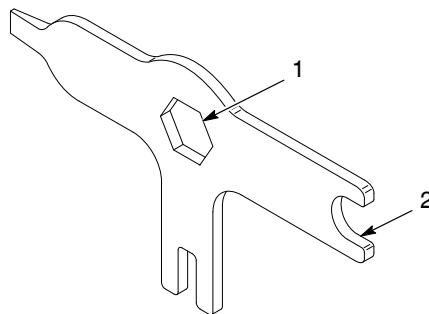

Figure 7-1 Combination Tool
- Combination tool provided with your spray gun (see Figure 7-1)